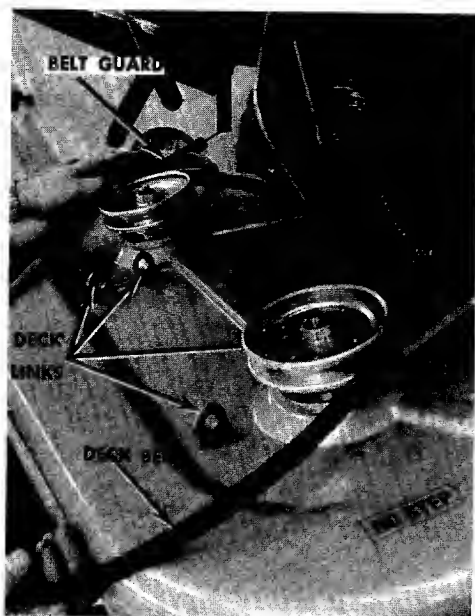

FIGURE 30. DECK LINKS
- Step 6. Remove the front four deck links from the cutting deck. See figure 30.
- Step 7. Remove the belt guards from both deck pulleys. See figure 30.
- Step 7. Tip the deck down as shown in figure 30.